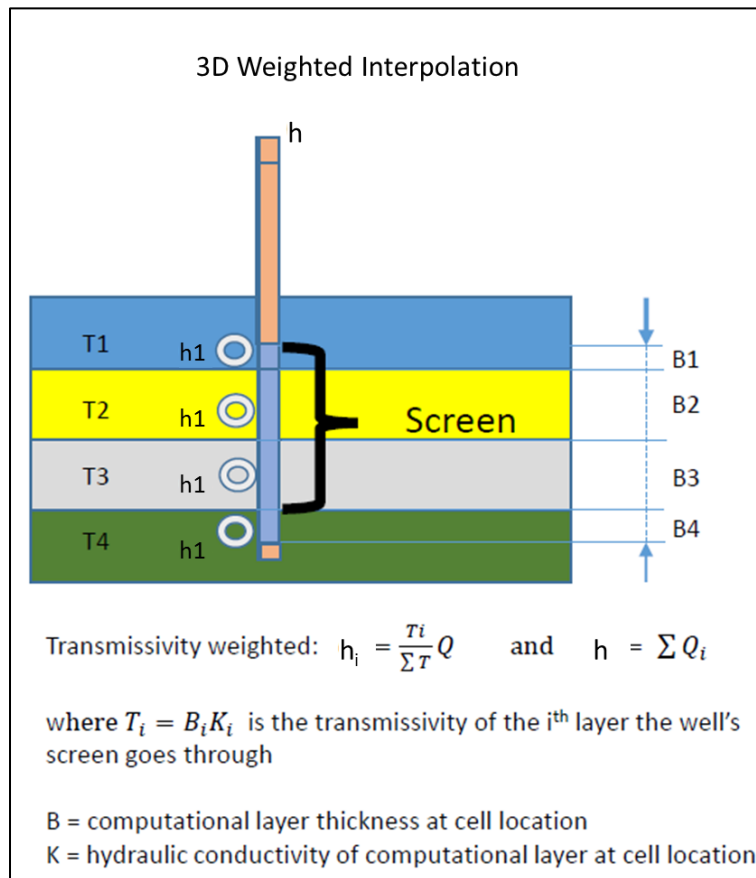

Figure 6-10: Scheme used for 3D Weighted interpolation of simulated head for comparison with observations.
- 3D Weighted interpolation for multi-layer models, where the weighting is determined by screen-transmissivity (see Figure 6-10).